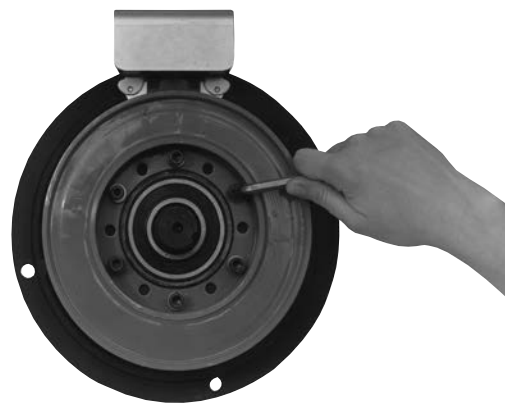

Figure 2
- The field assembly is then fastened in place with capscrews and lockwashers. (Figure 2)